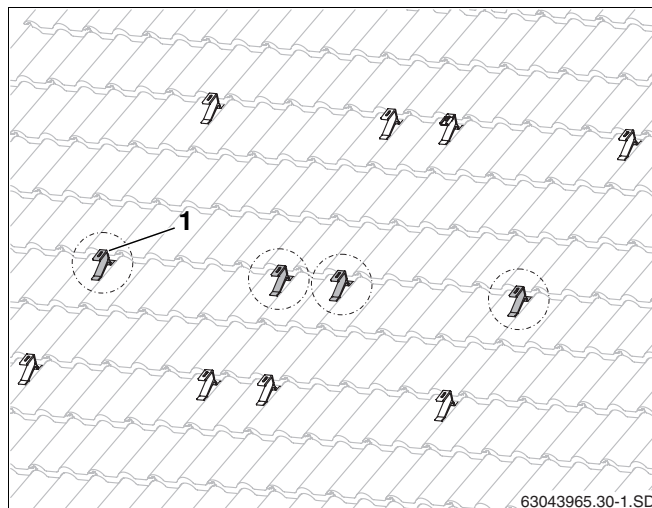

Fig. 28 Additional roof hooks for the wind or snow load profile (here: for two collectors)
- Fasten additional roof hooks (Fig. 28, **Item 1**) as centrally as possible between the upper and lower roof hooks already fitted.